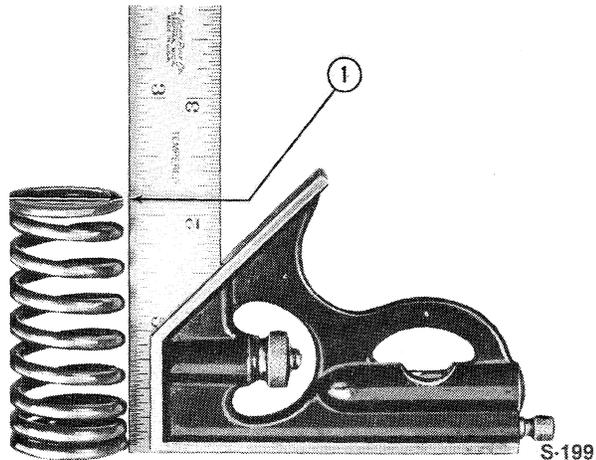

Figure 17
10. Replace worn or damaged valve springs. Check for squareness and reject if out-of-squareness exceeds 0.06 in. (1.5 mm). Figure 17. Check the free length and loaded length of each valve spring, see "Specifications" — Chapter 3. Be sure the valve spring retainer locks are in good condition and the exhaust valve rotators are not binding or worn.